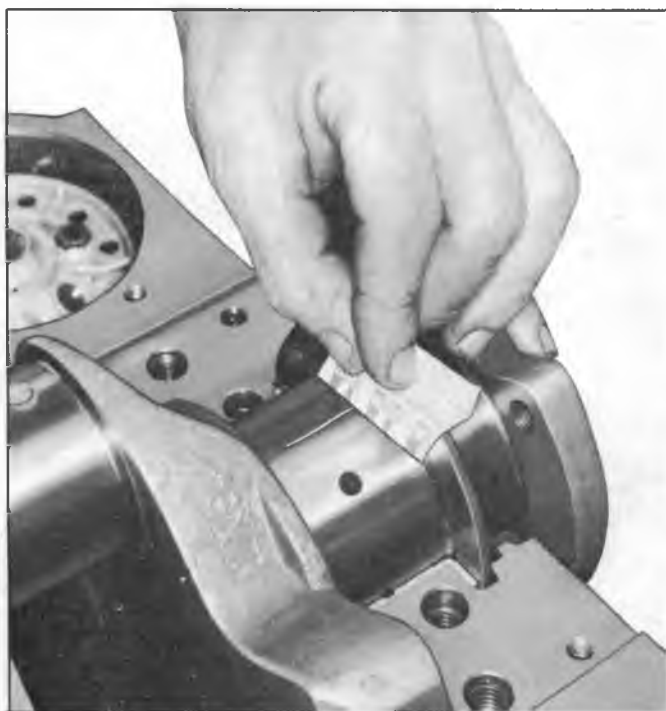

Fig. 41—Measuring Gauging Plastic
5. On the edge of gauging plastic envelope there is a graduated scale which is correlated in thousandths of an inch. Without removing the gauging plastic, measure its compressed width (at the widest point) with the graduations on the gauging plastic envelope (fig. 41).